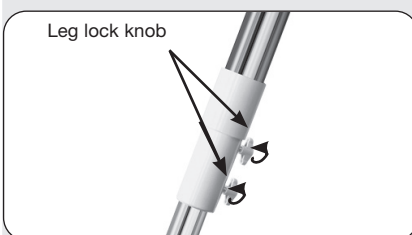

Fig. 11: Adjust the tripod height using the leg lock knobs.
11. Adjust the height of the tripod: Adjust the height of the tripod by loosening the tripod lock knobs (Fig. 11). Extend the sliding inner section of each tripod leg to the desired length; then tighten each knob. Adjust the tripod to a height that is comfortable for viewing.